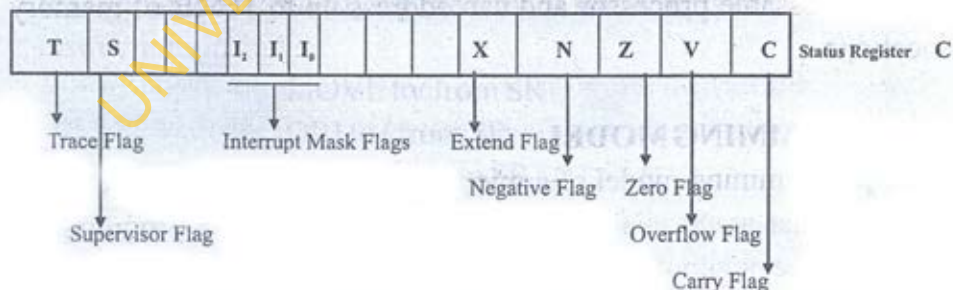

Figure 4.2: MC68000 Status Register with the Flags
The user byte includes the condition code flags such as *carry (C)*, *overflow (V)*, *negative (N)*, *zero (Z)* and *extend (X)* flags as shown in figure 4.2. The functions of the flags are as explained below.